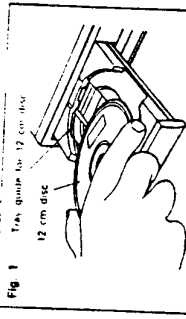
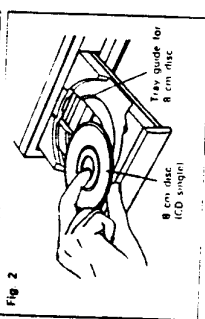

Fig. 1 Tray guide for 12 cm disc
Fig. 2
- When using 12 cm diameter discs, make sure the tray guide matches the tray guide circumference (Fig. 1) and the outer edge of CD singles (8 cm diameter) match the outer edge with the inner tray guide circumference (Fig. 2)